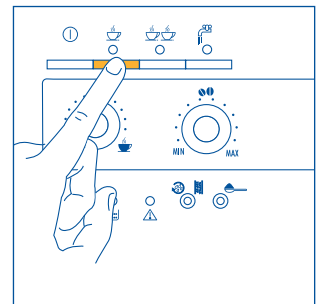
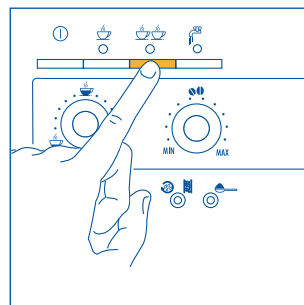

Fig. 12
Fig. 13
- 5) Press the  button (Fig. 12) to make one cup of coffee or the  button (Fig. 13) to make 2 coffees. *At this point the machine grinds the beans, runs a short pre-infusion cycle, a pause and then completes the delivery.*
NOTE 4: while the machine is making the coffee, the delivery can be stopped at any time by pressing the ☺ button (Fig. 12) or ☺☺ button (Fig. 13), as previously selected.
NOTE 5: as soon as delivery is complete, to increase the quantity of coffee, simply press and hold the ☺ button (Fig. 12) or ☺☺ button (Fig. 13), as previously selected, until the desired quantity is reached (this operation must be performed within 3 seconds from when coffee delivery from the spouts ceases).